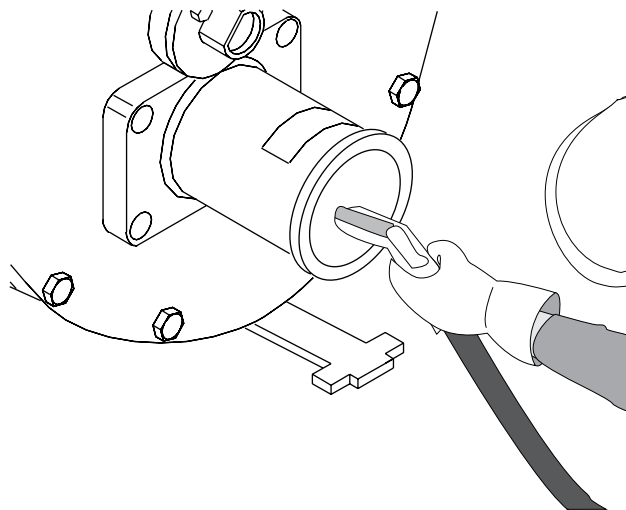

Figure 30
- Spray water into the opening, washing the end of the rubber ram, the material cylinder, the rock valve, and the outlet pipe (Figure 30). Continue washing until the water that leaves the valve is clear and clean. Visually inspect that no rocks, sand, or clumps of concrete remain. If there is still material, continue spraying water.